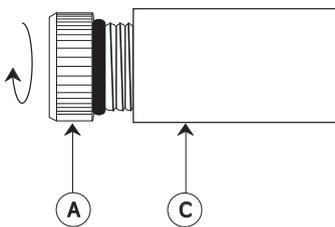

Figure 1
Remove the collar (A) of the calibration cell (C) (see Figure 1).